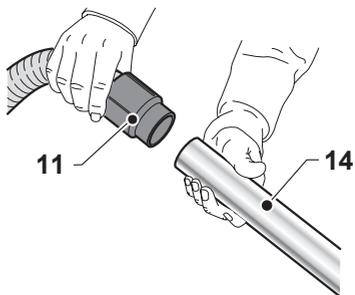

Fig. 7
- If provided, attach the extension wand (14 Fig. 7), to the hose (11 Fig. 7), followed by the required accessory (suction nozzle, floor nozzle, etc. Fig. 8).